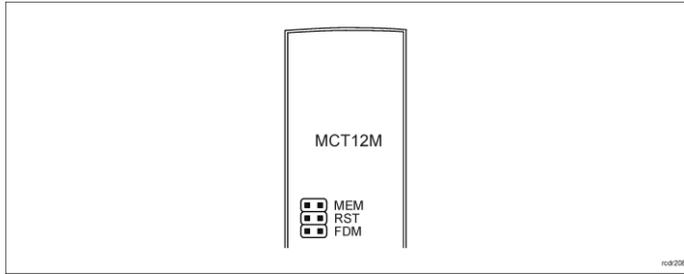

Fig. 3 Service contacts
**Note:** Remote configuration of device from VISO v2 software is possible only if jumper is placed on MEM contacts (fig. 3). If the jumper is removed then such configuration is blocked. In case of factory new device, jumper is placed on MEM contacts.
In RACS 5 v2 system the reader can be installed at site without previous configuration. According to AN006 application note, its address and other settings can be configured from VISO v2 management software and during such configuration the access to its service contacts (fig. 3) is not required.
2. Remove jumper from MEM contacts (fig. 3) if it is placed there.
2. Place jumper on FDM contacts (fig. 3).